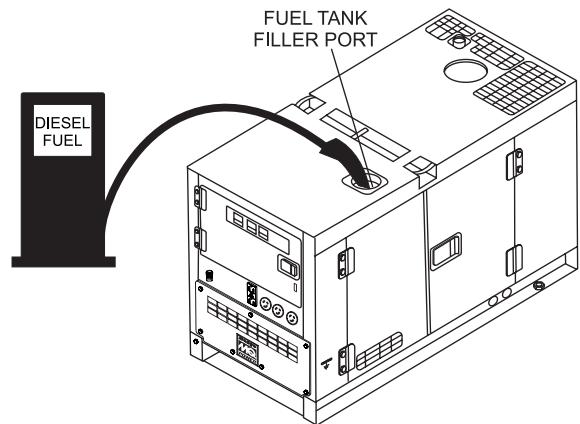

Figure 15. Fueling The Generator
2. Remove the cap from the **fuel tank filler port** (located on top of the generator) and fill the fuel tank as shown in Figure 15.